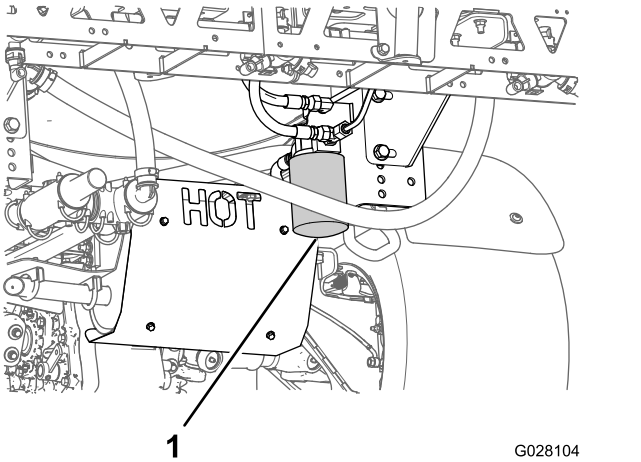

Figure 41
4. Remove the filter (Figure 41).